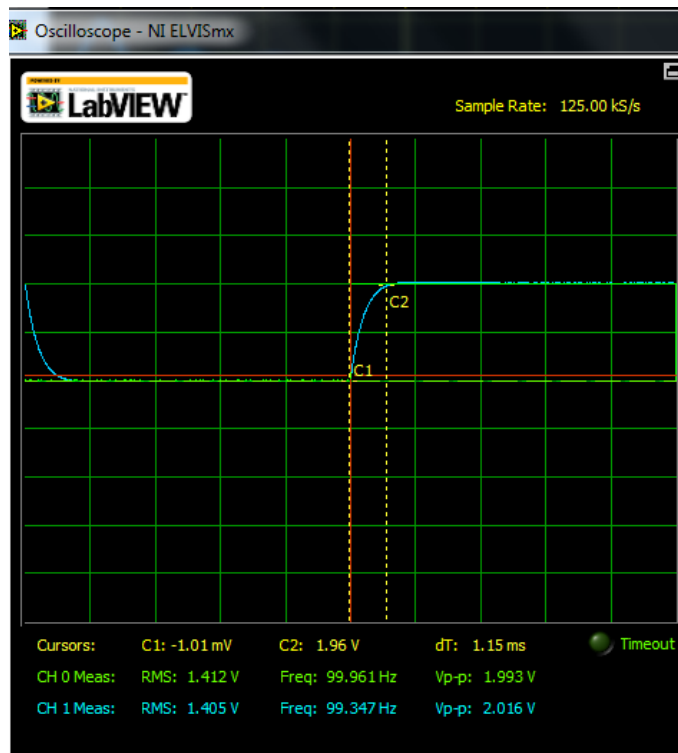

Figure 17: PI Control of a first order system with 0% overshoot
- Next, adjust the controller so that the output has virtually **no overshoot** and a settling time of approximately **1.00 ms** similar to Figure 17. You should include a screen shot of this oscilloscope output in your lab memo.